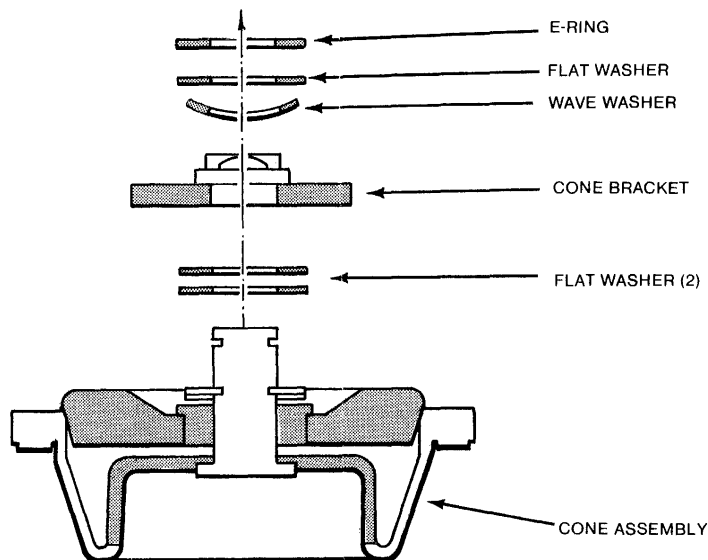

Figure 5-5
- B. Carefully insert the E-Ring, flat washer, and wave washer that holds on the cone shaft (see Figure 5-5).
E. Insert the screw that attaches the cone bracket to the cone alignment arm(see Figure 5-5).